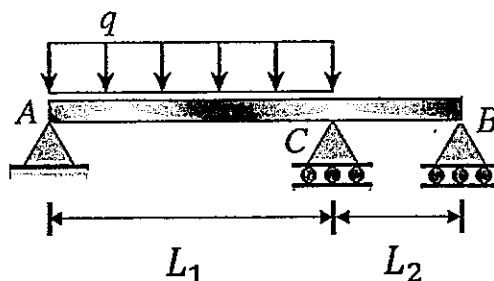

Fig. 1
1. As shown in Fig. 1, beam ACB is subjected to a uniformly distributed load q in segment AC . Point A is supported with a hinge, and there are roller supports at point C and B . The length of segment AC is L_1 , and the length of segment CB is L_2 . Beam ACB has a flexural rigidity of EI . Determine the reaction at point B . (Ignore the self-weight of the beam, and express the answer in terms of q , L_1 and L_2 .) (25%)